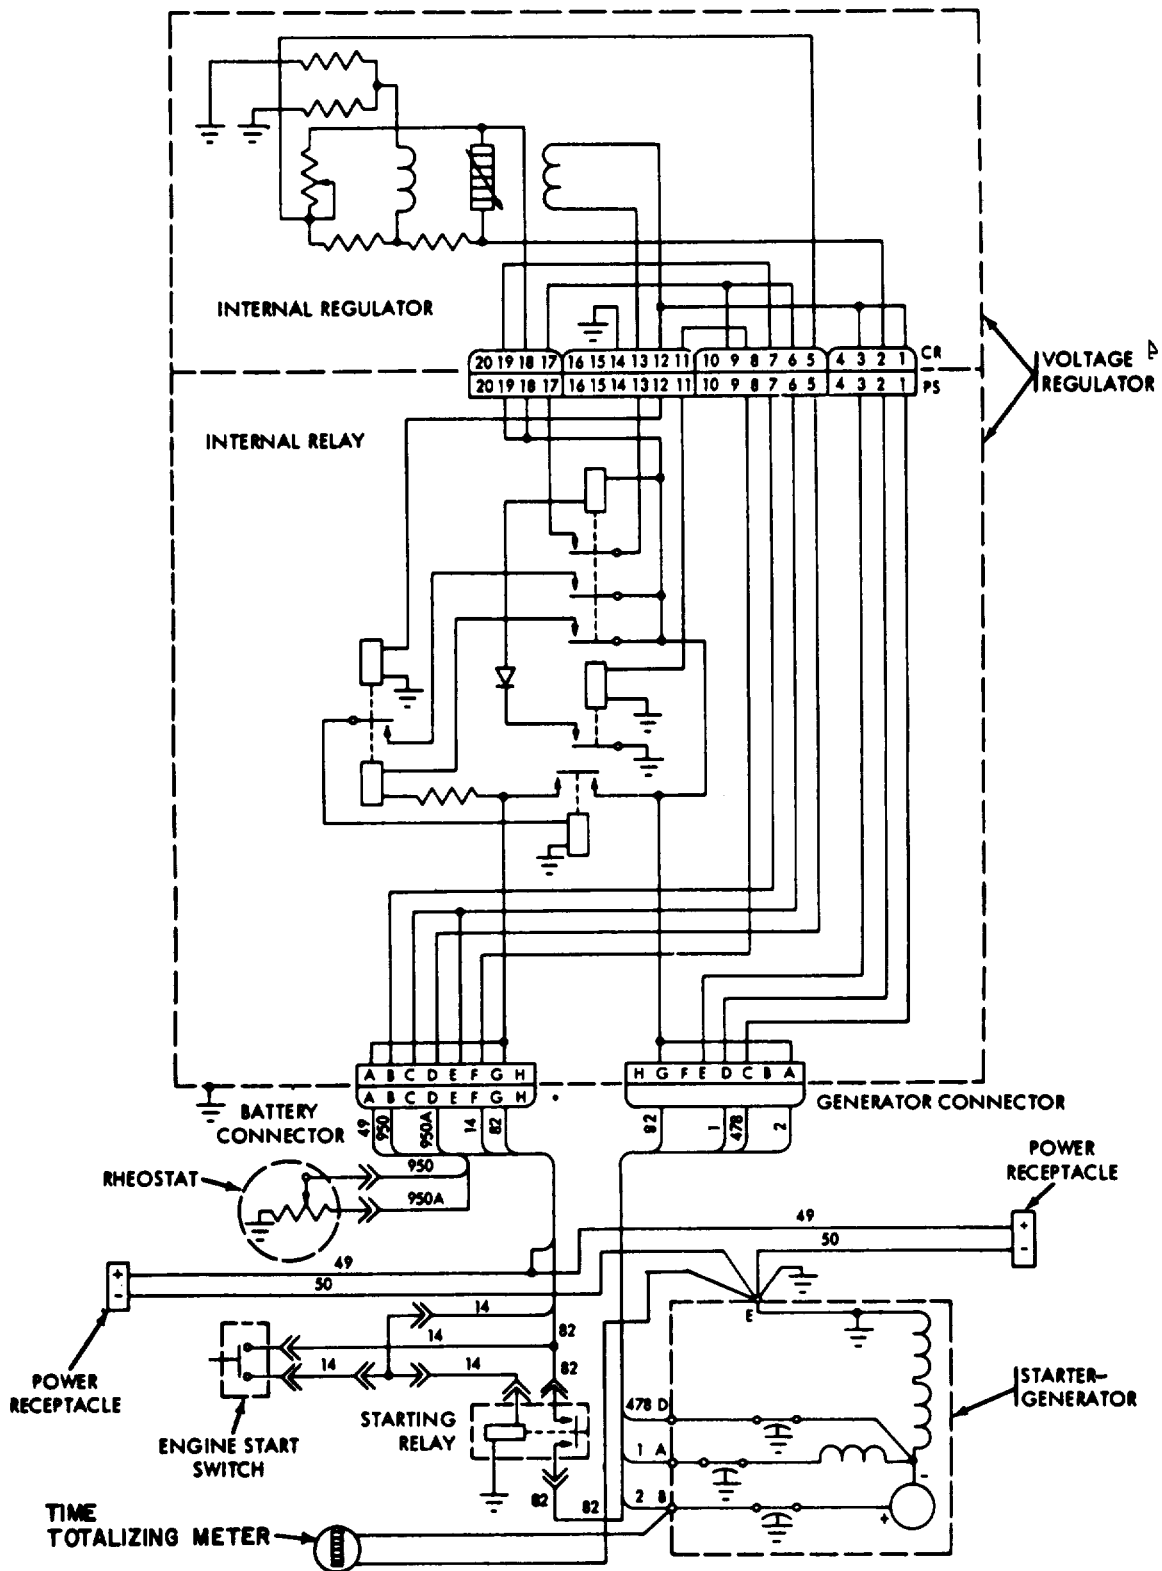

Figure 4-2. Electrical schematic diagram.
c. Circuits. See figures 4-2 and 4-2.1 for electrical schematic of generator set wiring and table 4-3 for electrical circuit numbers with a brief circuit-tracer description of each number.